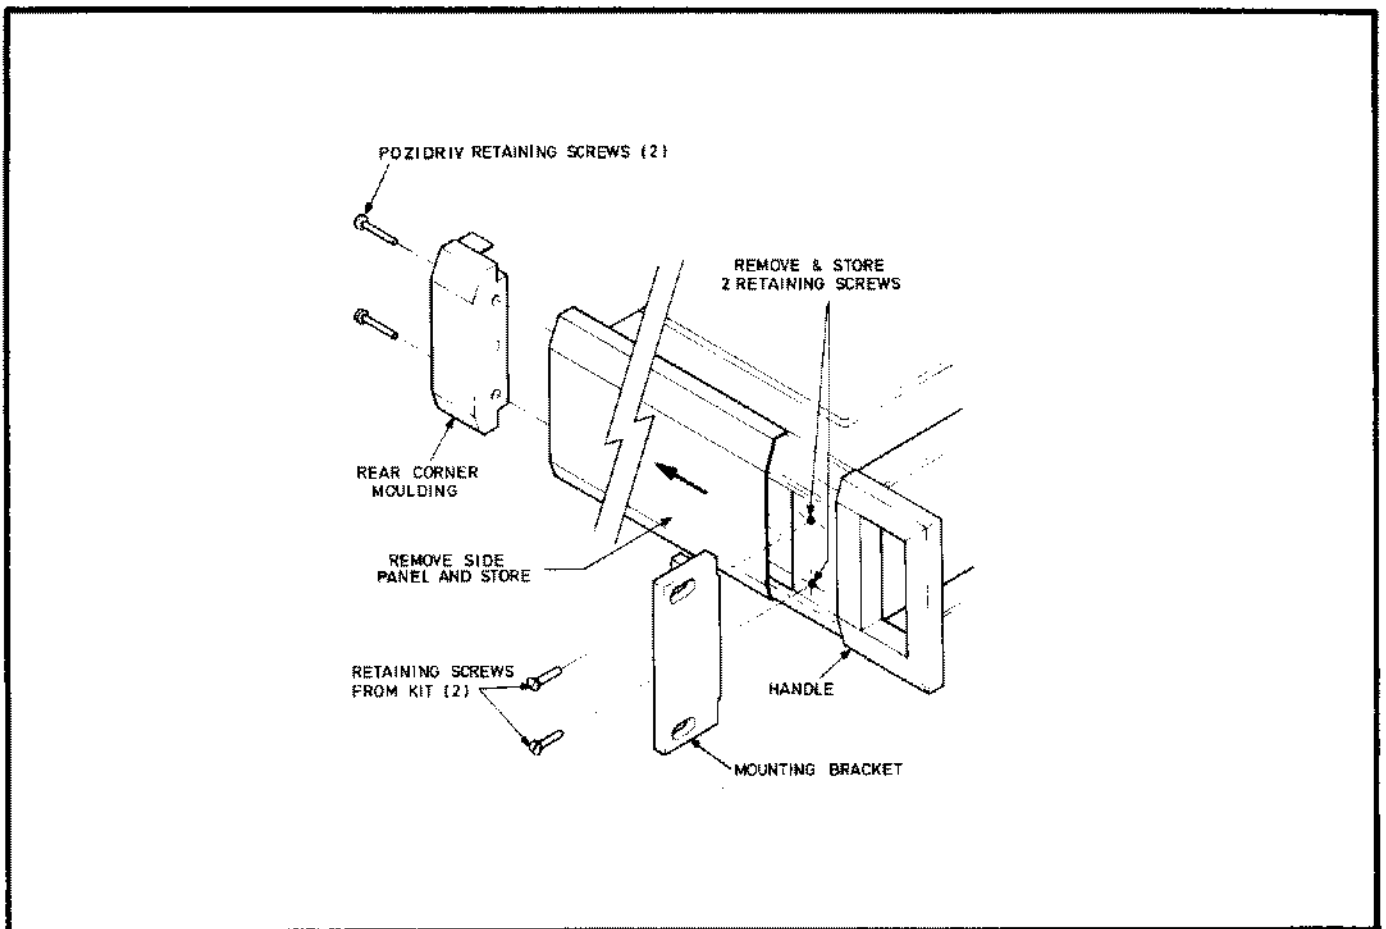

Fig. 3.1 Fitting the Fixed Rack Mounting Kit 11-1496
3.3.1 The kit contains a pair of mounting brackets and four screws. The method of fitting the kit is shown in Fig. 3.1. The fitting procedure is as follows: